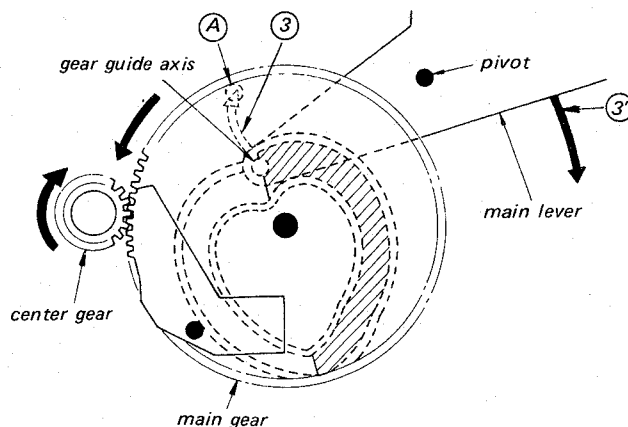
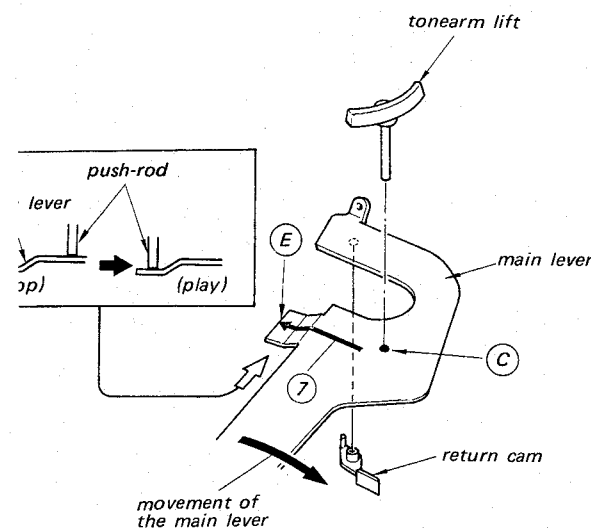
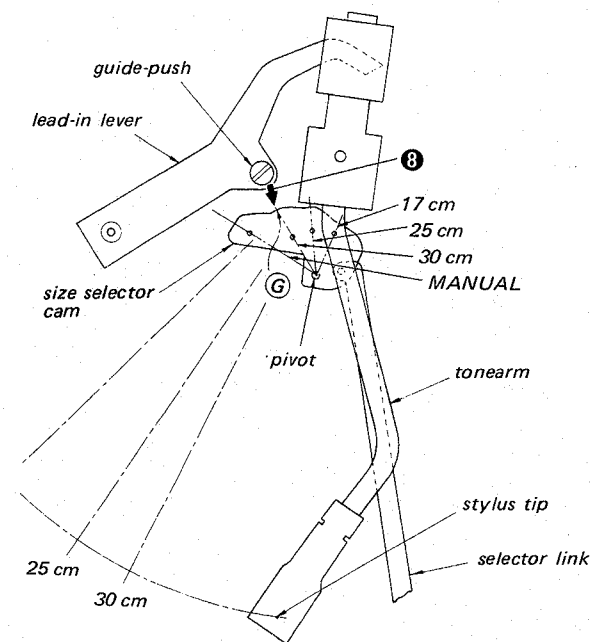
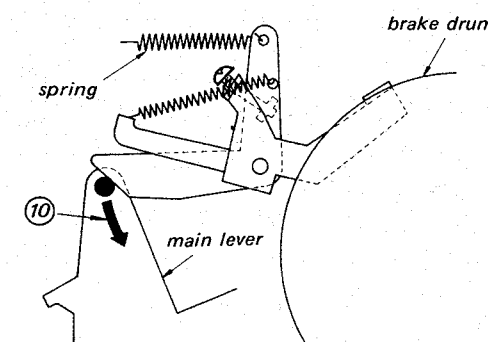

Fig. 1-3.
Fig. 1-5.
Fig. 1-6.
Fig. 1-8.
4. The gear guide axis at the tip of the main lever, is guided by the shaded section of the heart-shaped cam groove located on the main gear, moving across in a curved path ③ to position ④. Therefore, the main lever moves in the direction of arrow ③. (See Fig. 1-3.)
The central axis of the push rod resting against the tonearm lifter is on the position ③ in STOP mode. (See Fig. 1-5.)
During lead-in, the main lever moves across in the direction of arrow ③' (See Fig. 1-3), resulting in the position of the central axis of the push rod moving across as shown by arrow ⑦. (Fig. 1-5.)
3. The guide-push stops at the position determined by the surface ⑥ (Fig. 1-6) of the record size selector cam. The push rod consequently descends to the lower position ⑤ of the main lever (Fig. 1-5), resulting in the tonearm lowering onto the surface of the record for the commencement of play.
4. The position where the tonearm lowers (30 cm, 25 cm, 17 cm) is determined by the position of the record size selector cam shown in Fig. 1-6. The guide-push of the lead-in lever moves across in direction of arrow ⑧ during lead-in, and meets the size selector cam at surface ⑥ (for the 30 cm example shown), thus determining the drop point at the outer edge of a 30 cm record. That is, this position determines the distance moved by the lead-in lever, which consequently determines the rotational angle of the brake drum (and of the tonearm as well). With the record size selector knob set to the MANUAL position, the lead-in lever moves a little and the tonearm does not move.
5. The return cam attached to the main lever (see Fig. 1-5) pushes against the pin of the brake drum, forcing the tonearm to move back (horizontally) towards the arm rest.
6. The return operation is completed when the tonearm arrives back at the arm rest. The main gear comes to a stop in the position shown in Fig. 1-3.
Furthermore, a spring is also employed to exert pressure upon the main lever in the direction of arrow ⑩ (see Fig. 1-8), thus keeping the main gear in the stop position. (See Fig. 1-3.)